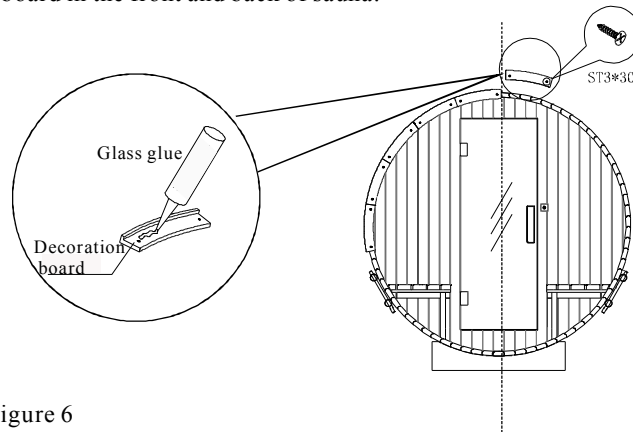

Figure 6
- (7) Start to tightly Assembly decoration board symmetrically from vertical center line, apply glass glue first, then fasten with screws (as shown in Figure 6). Assembly the decoration board in the front and back of sauna.